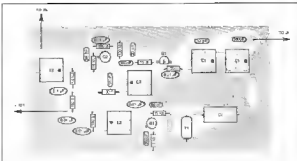

Fig. 3 — Parts-placement guide for the converter as seen from the component side of the board. The shaded area represents an X-ray view of the copper pattern.
Fig 3—Example (A) of a crystal oscillator that can be built on an IC header. The heavy black line indicates the MCM boundary. All other parts are external to the MCM. L1 is a 5.5- $\mu$ H inductor (33 turns of no. 28 enameled wire on an Amidon T50-2 core). L2 consists of 6 turns of no. 28 wire. The MCM layout is given at B.
A parts-placement layout, seen from the component side of the board, is given in Fig. 3. A scale etching template is shown in Fig. 4.